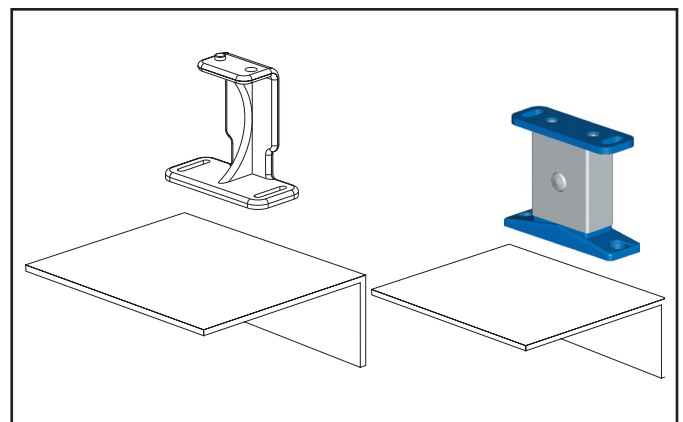

Fig. 10 : Mounting against the wall
- * If fixing methods A or B are not possible, an option is to fix against a wall (fig. 10). For this, angled profiles can be used in combination with flat attachment points A